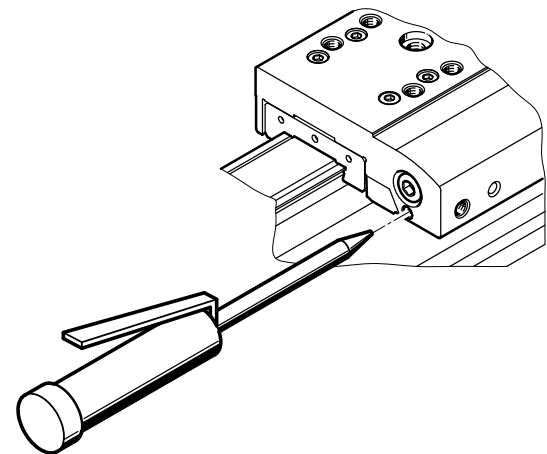

Fig. 12 Relubrication opening in spindle axis
- Grease the spindle axis at the relubrication opening (lubrication nipple) → Fig.12.